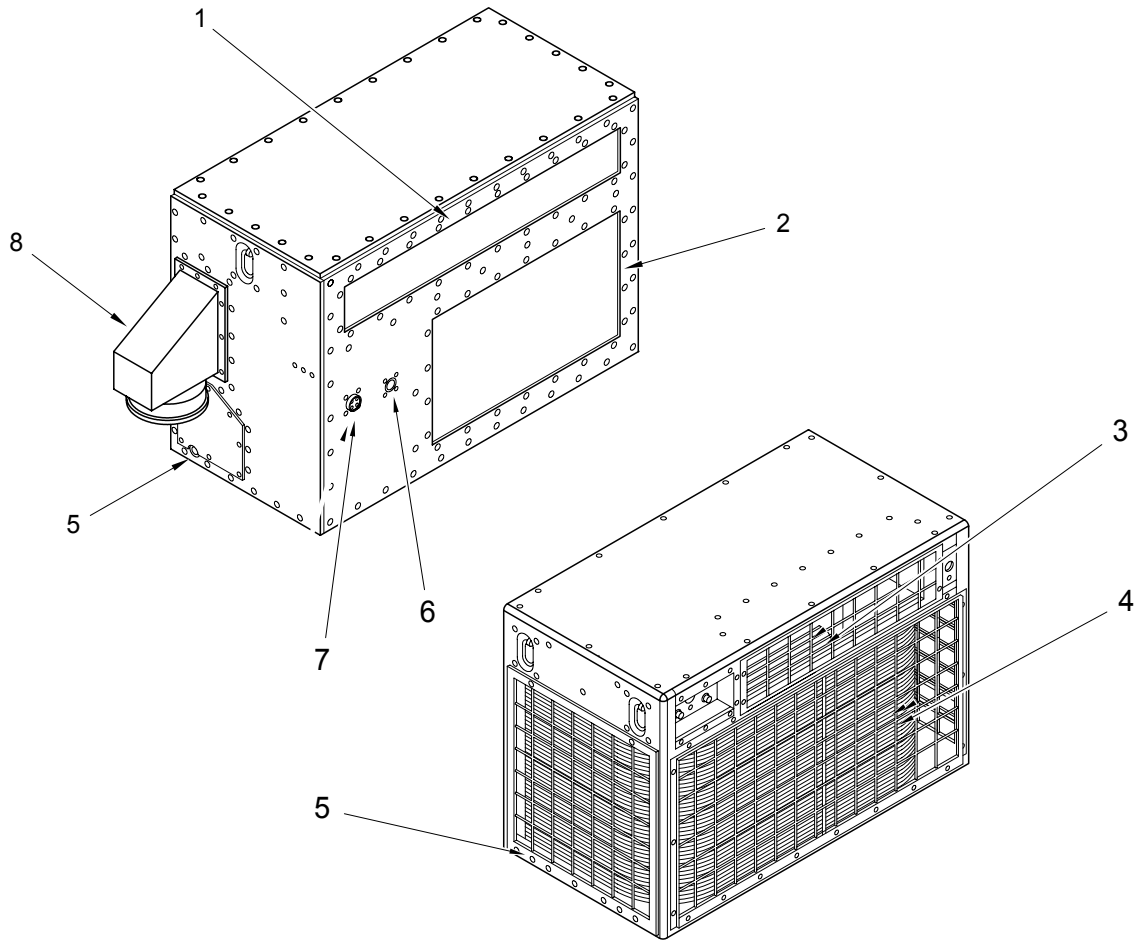

Figure 7. INTAKE AND DISCHARGE OPENINGS AND DRAINS.
4. Remove the fresh air duct (8) and fresh air EMI screens (1) and (2). Figure 7
10. Disconnect power cable J1 (7) and remote control cable J2 (6) from the front of the Environmental Control Unit. Do not remove cables from shelter access panel. Figure 7
15. Connect power cable to connectors J1 (7) and remote control cable J2 (6) on front of Environmental Control Unit. See Figure 7. Slowly lower air conditioner into position, align and loosely attach remaining installation hardware.
19. Install the fresh air duct (8). See Figure 7.
2. Check that all air intake (1) and discharge openings (2) are clear. See Figure 7.
3. Condensate drains (3) must not be plugged. Assure that both drains are either open or piped to a satisfactory location with a proper drain system. See Figure 7.